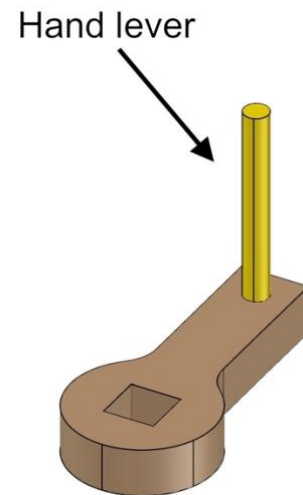

Fig. 20.4
- Fig. 20.4 shows the completed process.